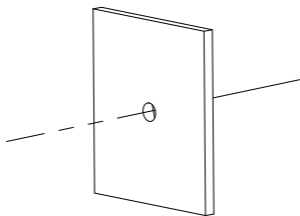

Figure 2-4 Drill on the Surface
1. Drill on the mounting surface, as shown in Figure 2-4.